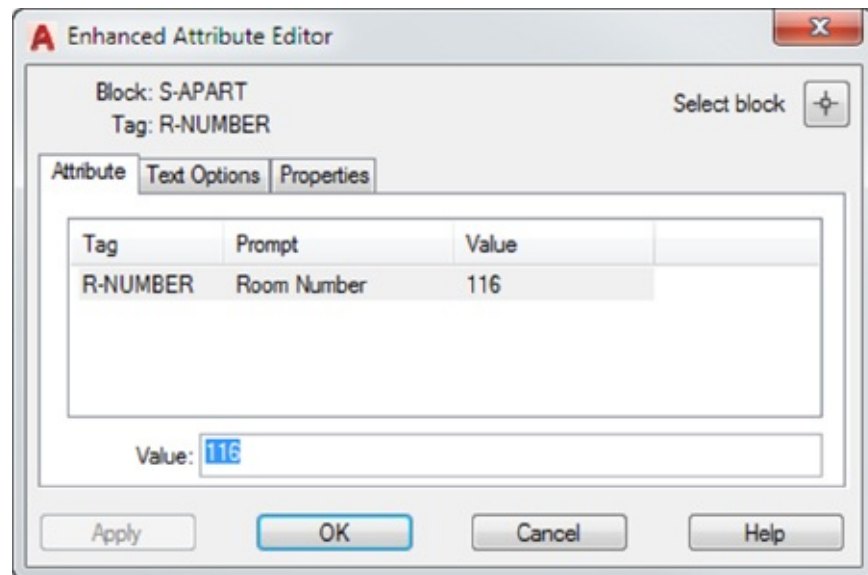

FIGURE 12.7 The Enhanced Attribute Editor
2. Double-click the apartment number attribute in the unit just to the right of the first unit in the lower-left corner to open the Enhanced Attribute Editor (see Figure 12.7).